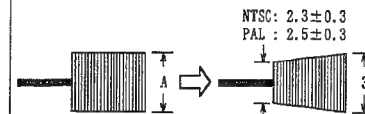
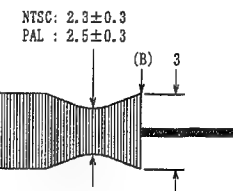

Fig. 4-1
Fig. 4-2
4. ADJUSTMENT AFTER REPLACING THE CYLINDER (Figs. 4-1, 4-2)
<p>Adjustment procedure</p> <p>Caution: Before performing this adjustment, refer to Fig. 6-1 and modify the ATF-R jig.</p> <p>1) Load an alignment tape that has been completely rewound. Press the PLAY button and hold it, then set the POWER switch to the VIDEO position.</p> <p>2) Connect an oscilloscope to TP3 on the ATF-R jig.</p> <p>3) Synchronize the oscilloscope with TP1 (SW25/30) on the ATF-R jig.</p> <p>4) Set the oscilloscope to (+) slope.</p> <p>5) Press SW2 on the ATF-R jig and hold it, then perform the following steps.</p> <p>6) Adjust the voltage level control of the oscilloscope so that portion (A) of the waveform is set to 4 graduations.</p> <p>7) Set SW1 on the ATF-R jig to ON.</p> <p>8) Turn RT1 on the ATF-R jig counterclockwise so that portion (A) of the waveform is set to 3 graduations.</p> <p>9) Adjust the height of the supply guide roller so the minimum amplitude of the waveform is set to NTSC: 2.3 ± 0.3 / PAL: 2.5 ± 0.3 graduations. (See Fig. 4-1)</p> <p>10) If this cannot be confirmed, adjust the height of the supply guide roller, referring to "3-3. Supply/Take-up Guide Roller Height Adjustment".</p> <p>11) Set the oscilloscope to (-) slope.</p> <p>12) Turn RT1 on the ATF-R jig counterclockwise so the voltage at point (C) on the ATF-R jig is $1.8 \pm 0.1V$. Then check that point (B) of the waveform is set to 3 graduation.</p> <p>13) Check that the minimum amplitude of the waveform is set to NTSC: 2.3 ± 0.3 / PAL: 2.5 ± 0.3 graduations. (See Fig. 4-2)</p> <p>If this cannot be confirmed, adjust the height of the take-up guide roller, referring to "3-3. Supply/Take-up Guide Roller Height Adjustment".</p> <p>14) Perform the following electrical adjustments.</p> <ul style="list-style-type: none"> Head switching point adjustment Record luminance/chroma level adjustment <p>Caution: After adjustment is complete, be sure to reverse the modification to ATF-R jig.</p>